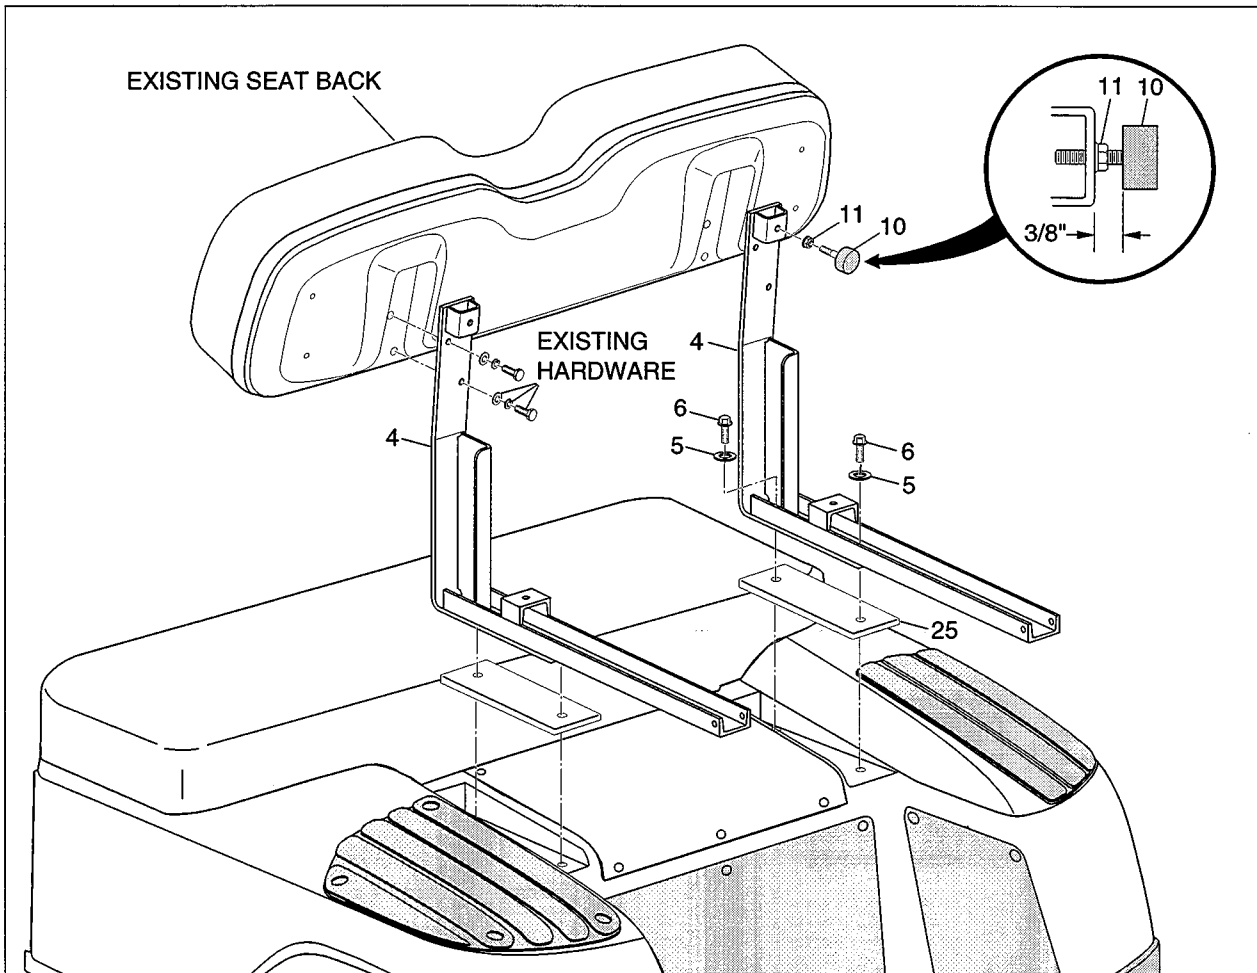

Fig. 3
B. INSTALLING SEAT BACK SUPPORT (Refer to Fig. 3)
2. Place spacer (item 25) on frame and install the new seat back supports (item 4) to the frame using washers (item 5) and bolts (item 6). Finger tighten hardware to allow for adjustment.
4. Install rubber bumpers (item 10) on vertical part of seat support bracket using one lock nut (item 11) (per bumper) as shown in Fig. 3. Tighten to dimension specified.
5. Tighten bolts (item 6) to 21 - 25 ft. lbs. torque.